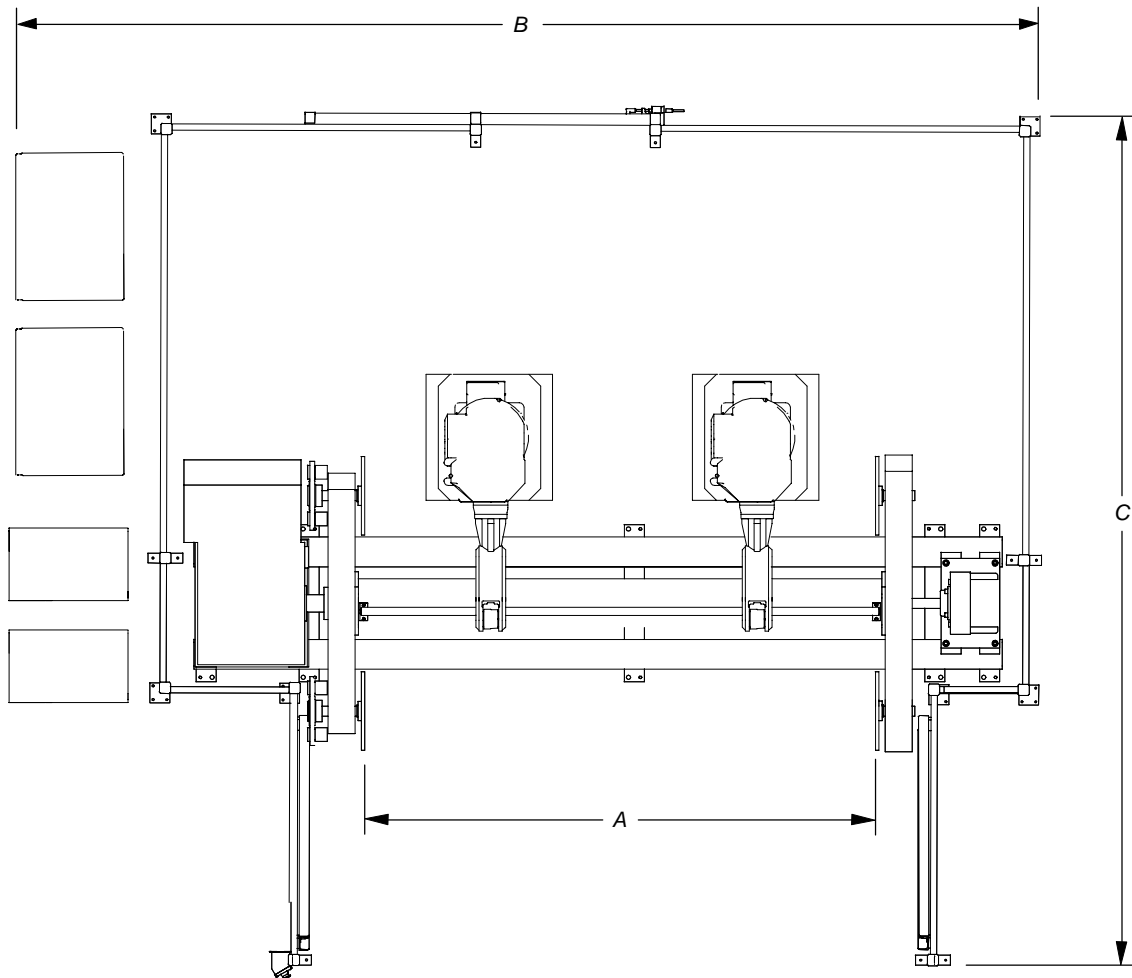

Figure 4-1 Area Needed for Installation
1. Clear floor space needed for unit. To obtain the cell distances (**C**) and (**B**) in Figure 4-1, measure between faceplates (**A**) and cross-reference that distance in Table 4-1.